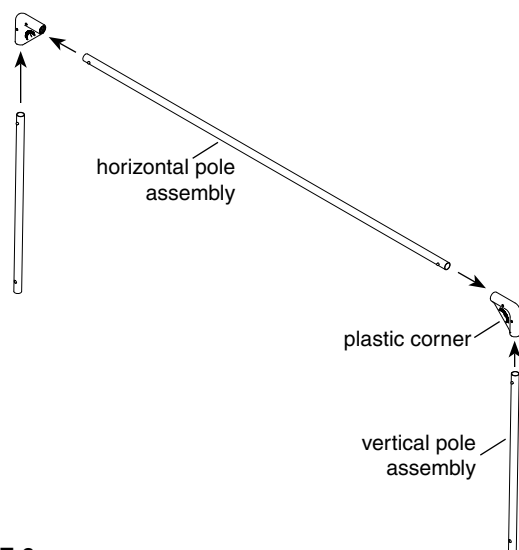

FIGURE 6
1. Insert (3) 57.21" horizontal assembly poles (68188) into (6) plastic corner pieces (68175) by lining up snap button with snap button holes in plastic corner pieces. Snap into place. Pole will have a snug fit and may shave some interior plastic off. This is by design for a good fit. **SEE FIGURE 6.**
2. Insert (6) 24" vertical assembly poles (68184) into the previously assembled horizontal pole/plastic corner assemblies by lining up snap button with the snap button holes in plastic corner pieces. Snap into place. Poles will have a snug fit and may shave some interior plastic off. This is by design for a good fit. **SEE FIGURE 6.**
1. Insert (3) 70.02" horizontal assembly poles (68190) into (6) plastic corner pieces (68175) by lining up snap button with snap button holes in plastic corner pieces. Snap into place. Pole will have a snug fit and may shave some interior plastic off. This is by design for a good fit. **SEE FIGURE 6.**
- Insert (6) 27.76" vertical assembly poles (68186) into the previously assembled horizontal pole/plastic corner assemblies by lining up snap button with the snap button holes in plastic corner pieces. Snap into place. Poles will have a snug fit and may shave some interior plastic off. This is by design for a good fit. **SEE FIGURE 6.**